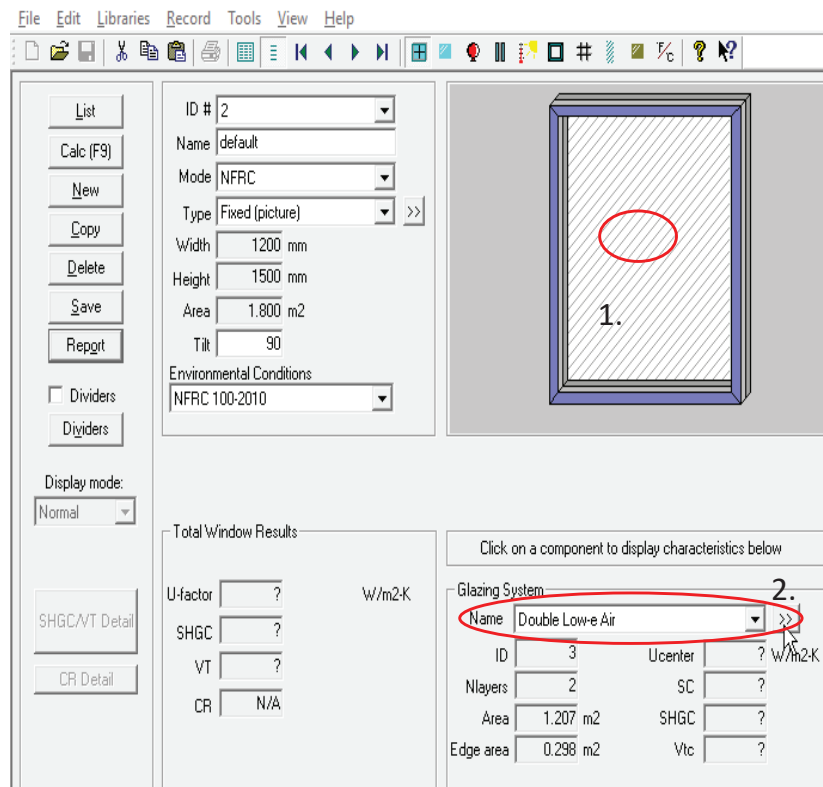

Figure 9-254: Create New Window
- The glazing system is selected by clicking in the middle of the representative picture. When the glazing system is selected, it is shown with hatched, diagonal lines instead of as a solid color. (see Figure 9-254, Step 1 and 2)